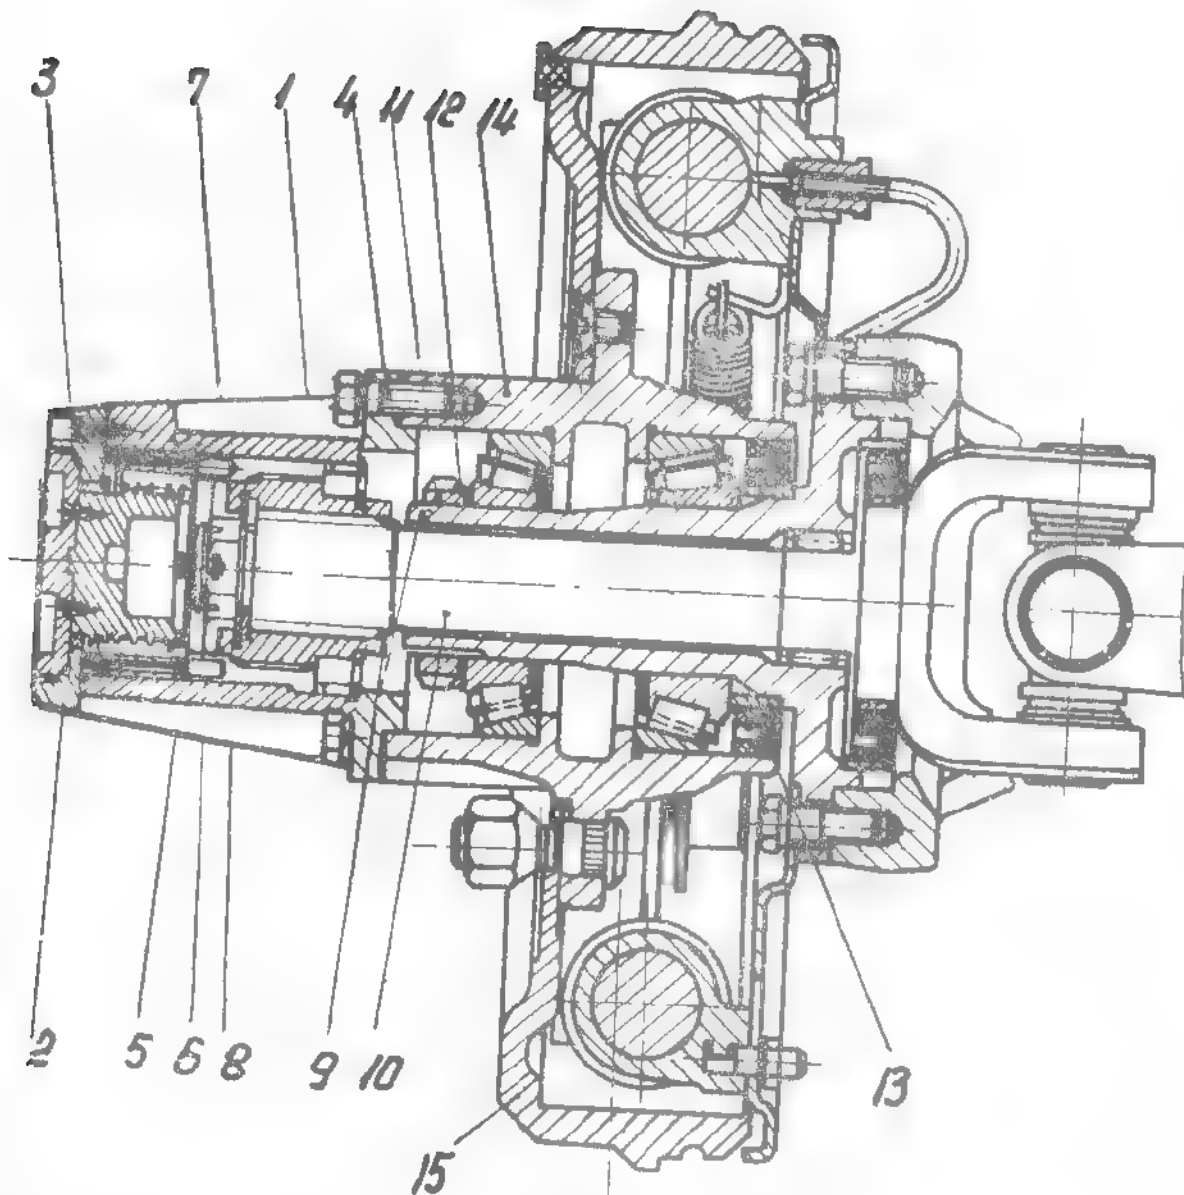

Fig.2.11. FRONT WHEEL BRAKE DRUM KING PIN ASSY
- Unscrew bolts fastening the free wheeling hub cover and remove the cover (2) (see fig.2.11).
- Remove the split pin (5) and unscrew the nut (6), fastening the free wheeling hub on steering knuckle (10).
- Remove snap ring (7) and thrust washer (8) by means of special S 102 nose pliers.
- Unscrew bolts (4) fastening free wheeling hub on the steering knuckle (10) and remove it by axial sliding.